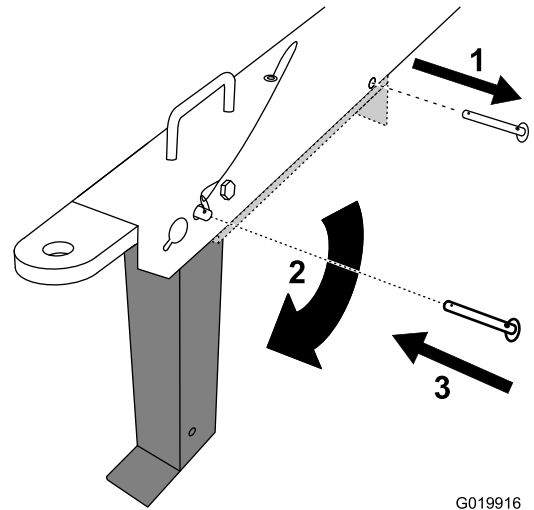

Figure 30
6. Pull the clevis pin out from the front stabilizer leg and the tongue (Figure 30).
7. Rotate the front stabilizer leg down toward the ground (Figure 30).
8. Push the clevis pin through the front hole in the tongue and the front stabilizer leg (Figure 30) and carefully lower the machine to the ground.